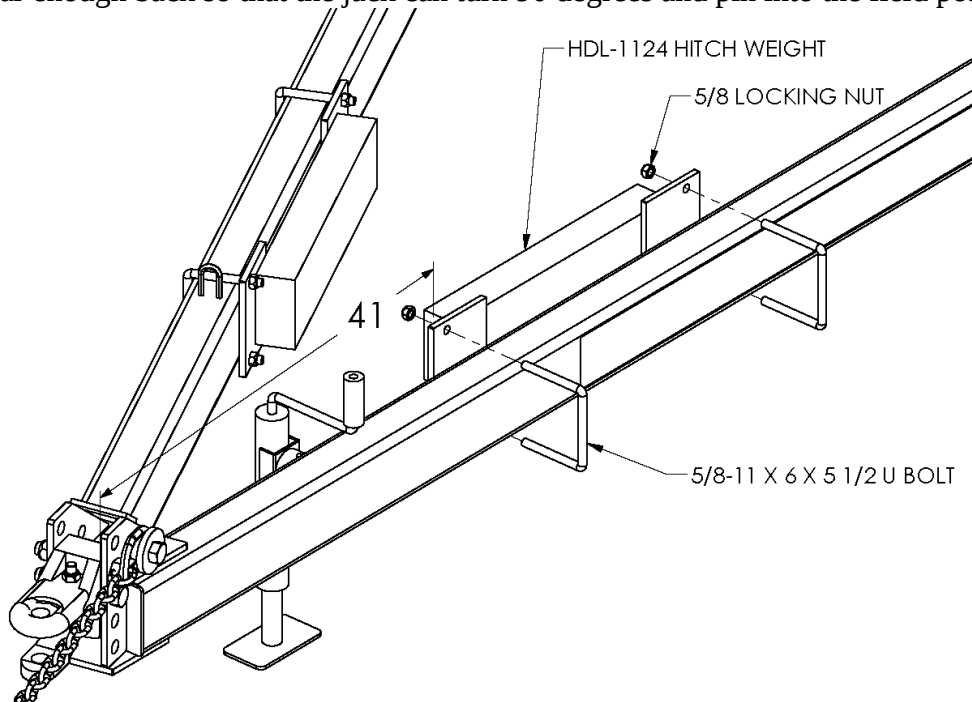

Figure 4
1. Attach the Hitch Weights to the Main Frame as shown in Figure 4. Dimension from front of side tube to front of weight mount plate should be approximately 41. The weights must be far enough back so that the jack can turn 90 degrees and pin into the field position.